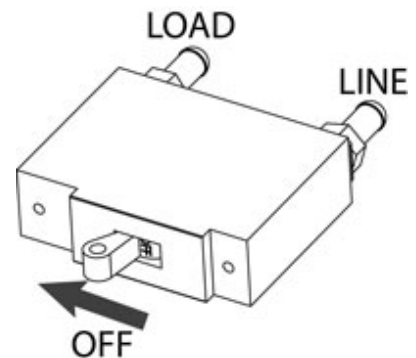

Figure 25. Turn Breaker Off
- Step 1.** Ensure that breaker is in the OFF position before installing into panel (see Figure 25).